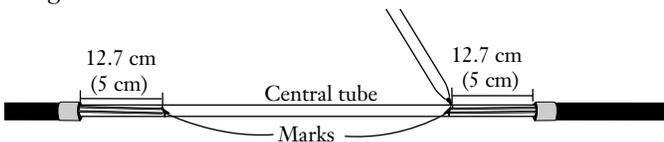

Figure 39
7.19 Place marks 12.7 cm (5 in.) from the end of each side of the exposed section of central tube with a permanent marking pen (Figure 39). These access starting and ending mark locations will vary depending on the hardware being utilized.